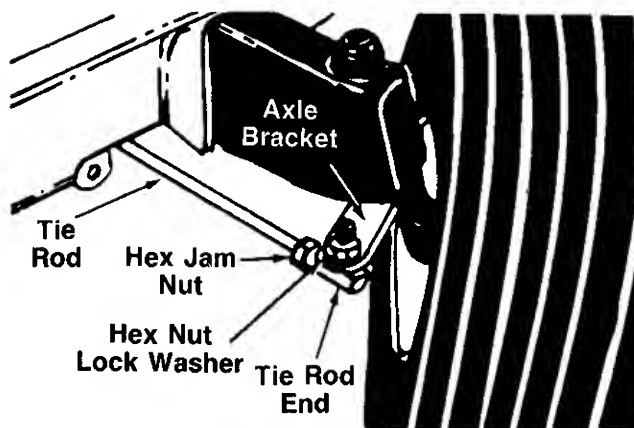

FIGURE 18.
1. Remove the hex nut and lock washer, and drop the tie rod end from the axle bracket. See figure 18.